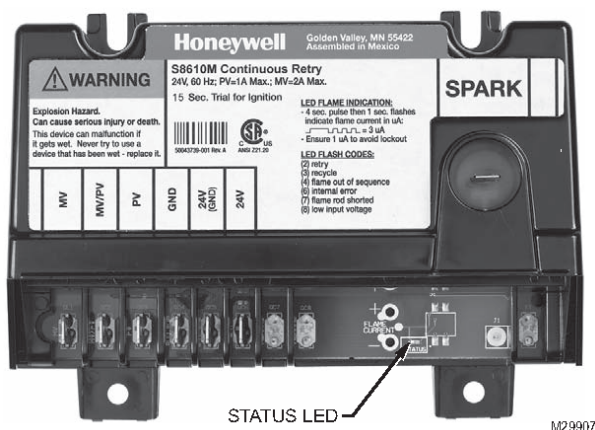

Figure 12-1: Location of LED
See Figure 12-1 for electronic ignition (EI). Electronic Ignition Modules with LED indicators. Table 12-2 cross-references the ignition module terminal designations to the ignition terminal numbers in the wiring ladder diagrams. Table 12-4 provides green LED status codes and recommended service action where applicable. See Figure 12-1 for Location of LED. See Figure 16-1 for Troubleshooting Guide.